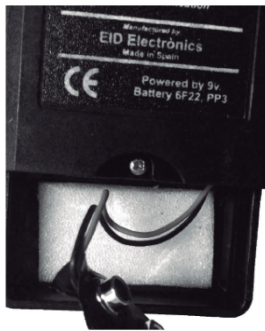

Figure 19 – Rear cover
1. Unscrew and remove the rear cover of the remote control device (*Figure 19 – Rear cover*)